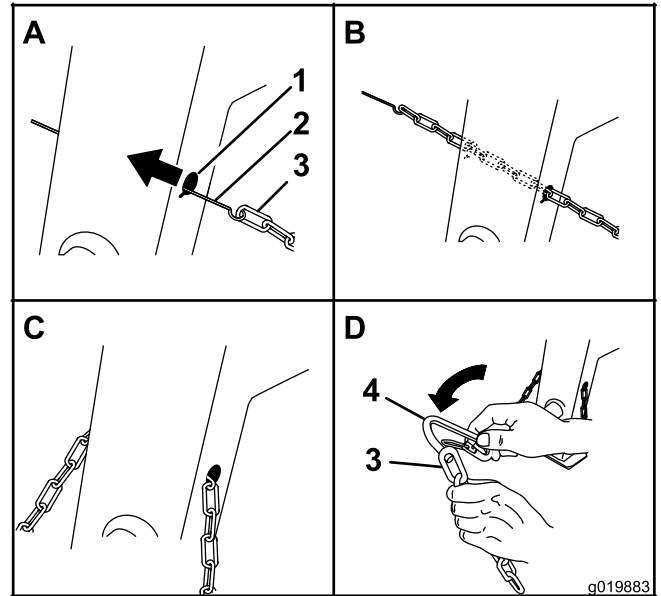

Figure 5
- Attach the safety chain to the length of rod or wire (Figure 5).
- Pull the rod, or wire, and the safety chain through both keyholes (Figure 5).
- Form a hook on the end of a bendable piece of rod or stiff wire (not included), and insert it through both keyholes in the front post of the machine (Figure 5).
- Align the connecting link to the last link in one end of the safety chain (Figure 5).
- Insert the connecting link through the chain link until the connecting link snaps closed (Figure 5).